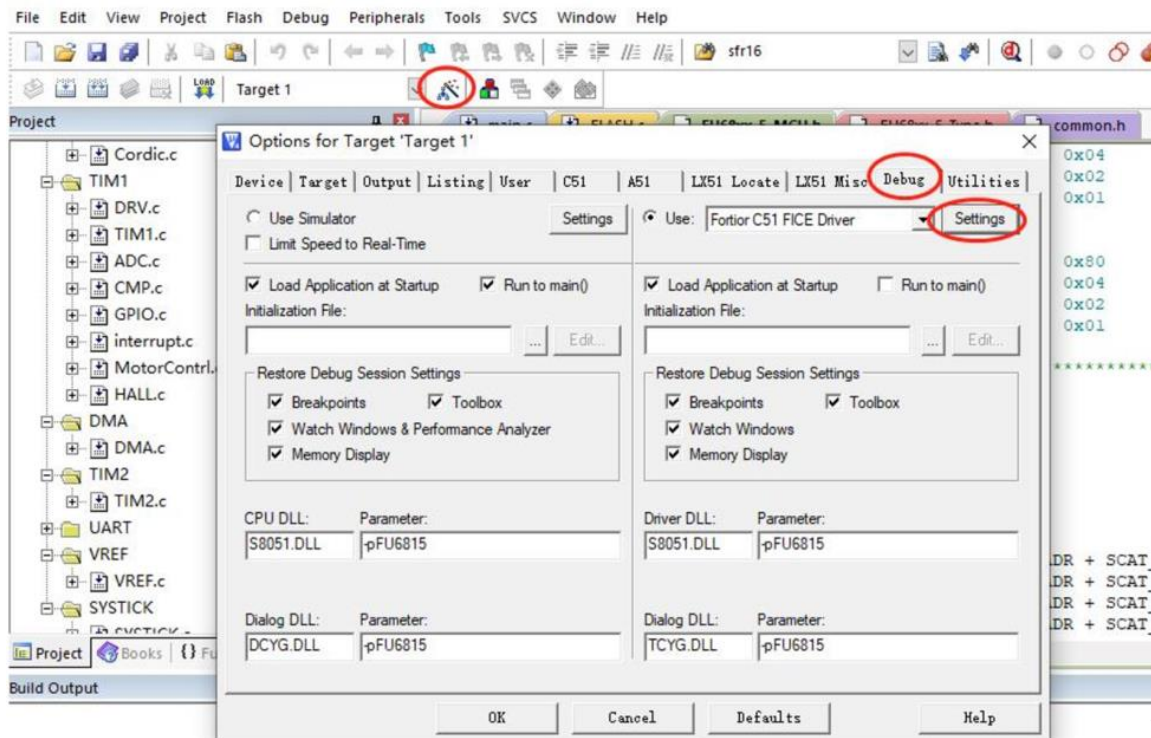

Figure 34-1 Code Protection Configurations
1. Start 8051 IDE, enter Target Options and select Debug tab. As shown in Figure 34-1, click Settings to proceed with the setting;